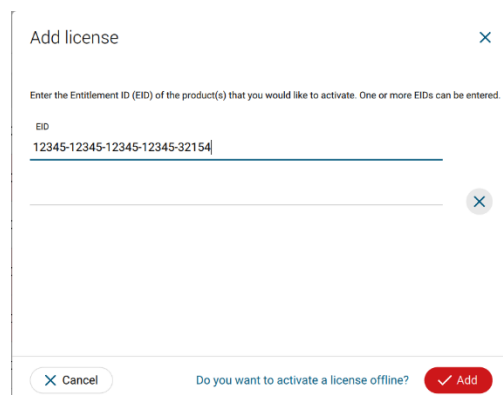

Fig. 3 Adding license EID to CLM
4. Press  as shown add in Fig. 3, and wait for the CLM to activate the license,